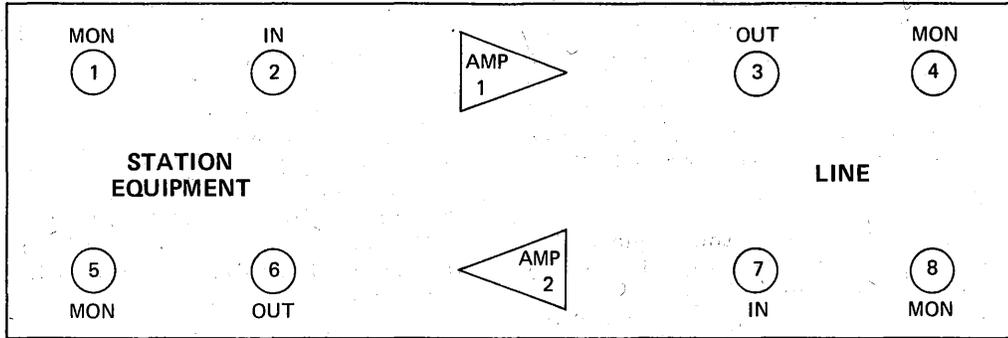

FIGURE 1
- 7.01 Testing jacks are located at one end of the signaling applique mounting strip. The designations will be similar to the diagram on the following page (Figure 1). Jack numbers are added to help in making tests.